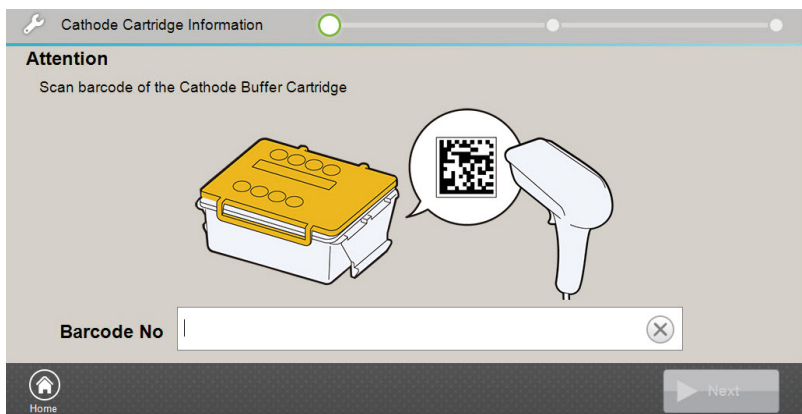

Figure 22. 'Cathode Buffer Cartridge barcode scanning' screen.
5. Select **Install** in the footer to start the replacement wizard. This displays the 'Cathode Cartridge Barcode Scanning' screen (Figure 22).